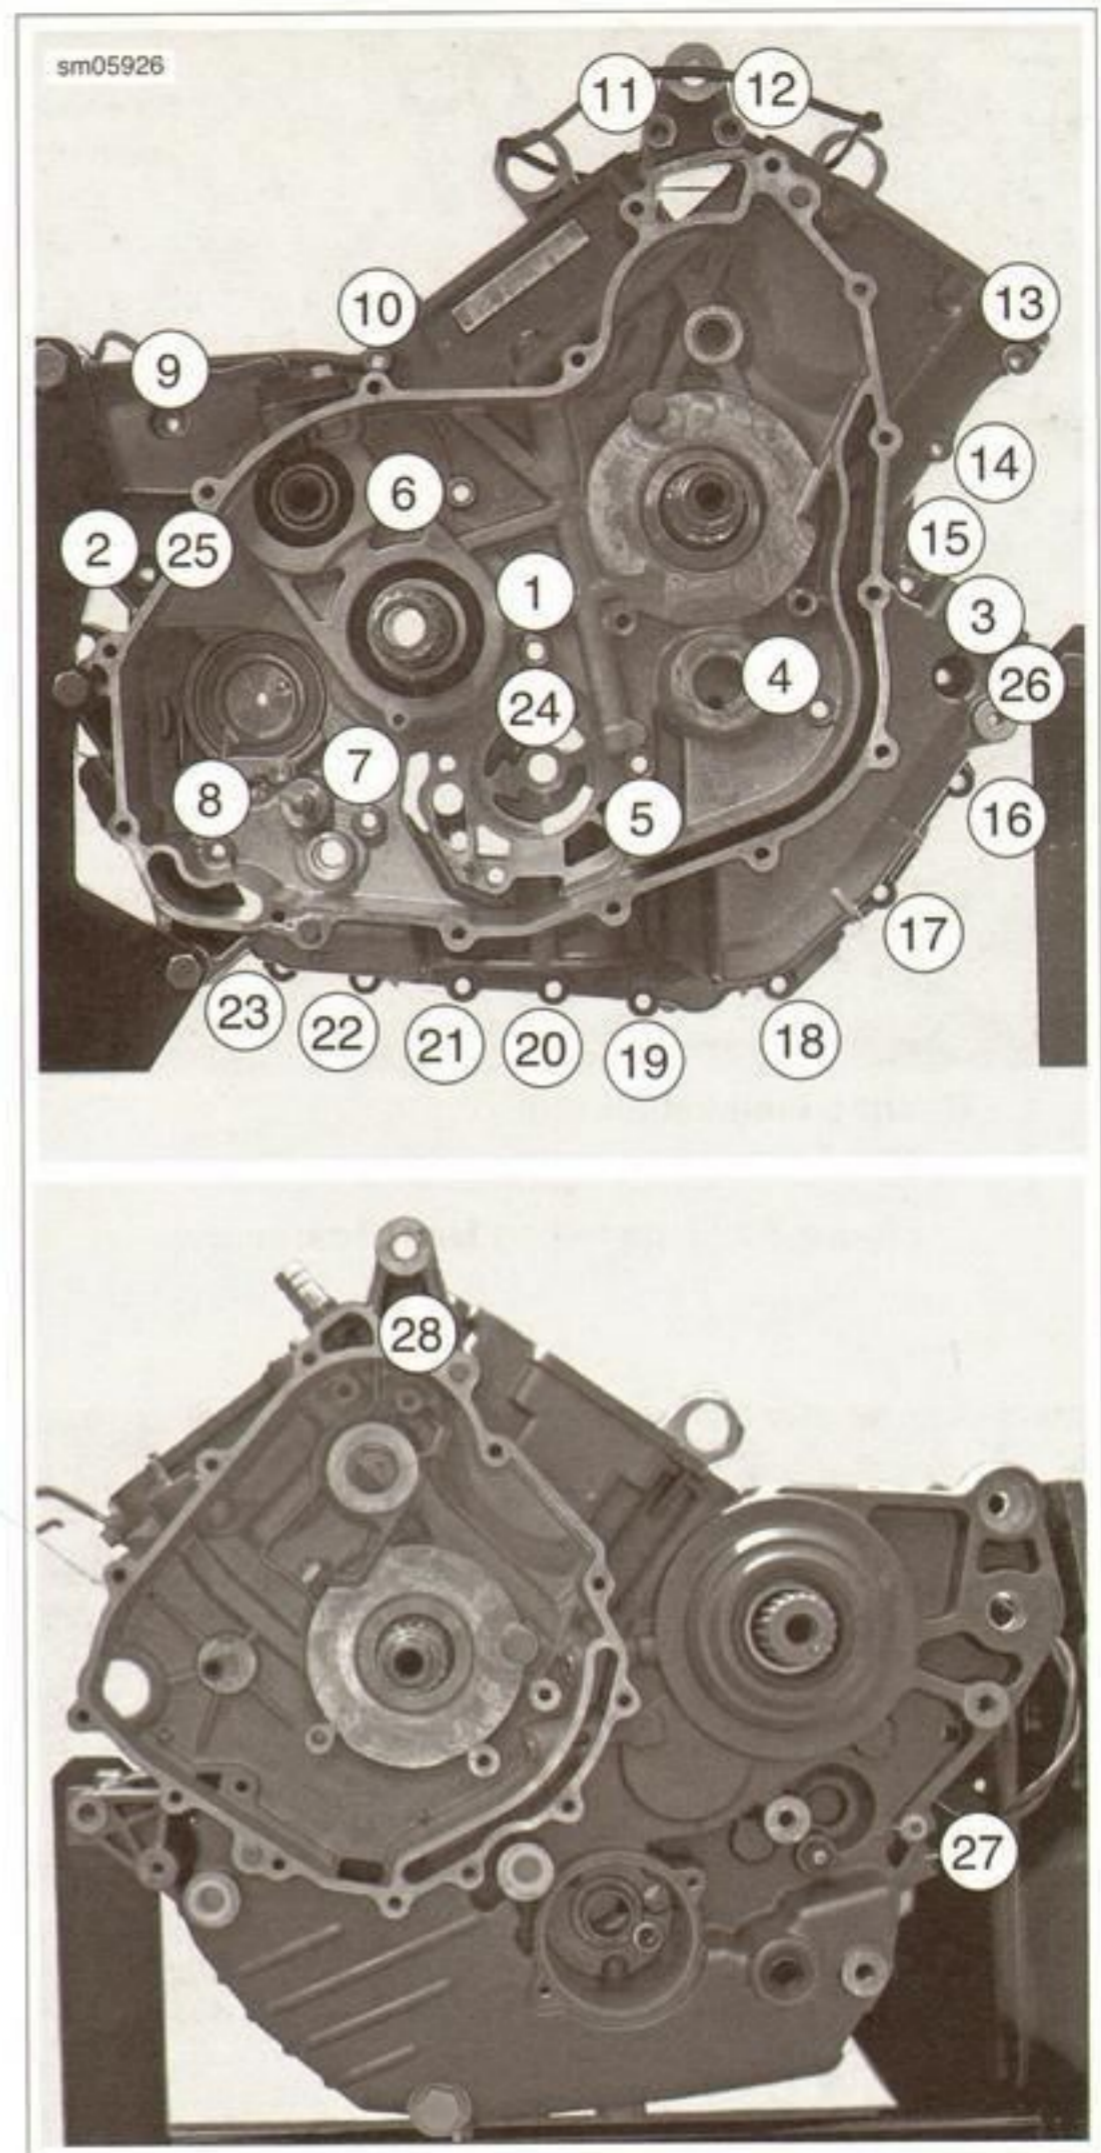

Figure 3-189. Crankcase Torque Sequence
7. See Figure 3-189. Tighten crankcase fasteners in sequence shown to 11 Nm (97 in-lbs).